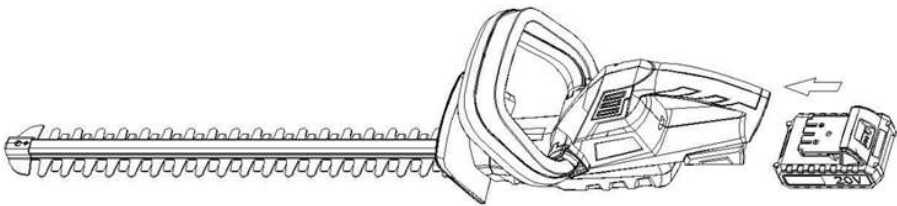

Figure 2
- 1. Insert the battery:** Slide it into the leaf blower body until it latches into place. Check that the battery is securely locked into place (Figure 2).